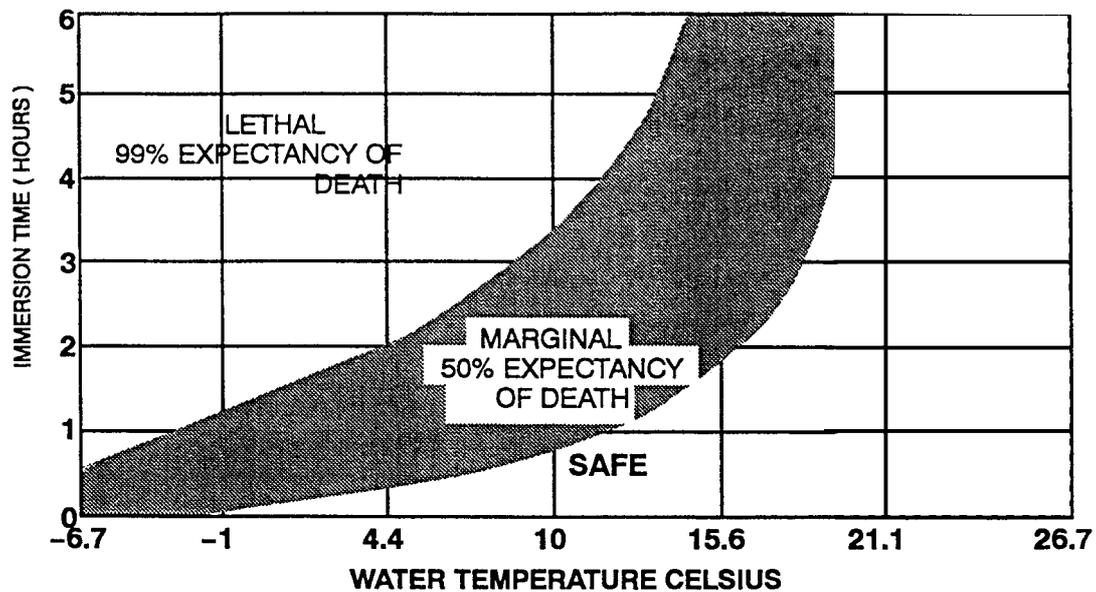

Figure 13:2—Water Chill without Anti-exposure Suit
- 13.13** Studies have shown that an average person wearing a life jacket and immersed in water has a life expectancy under various conditions, as shown in Figure 13:2.